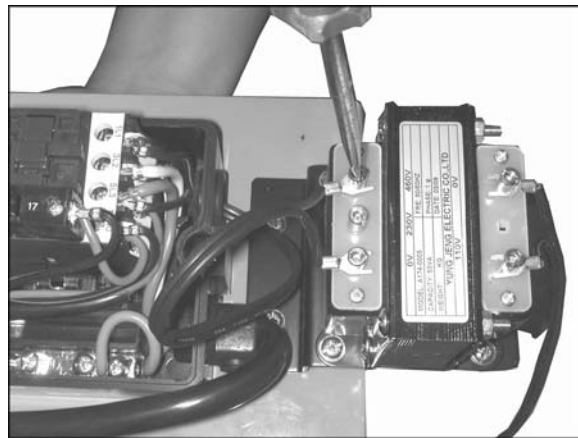

Figure 9
4. Change the lamp input power from 230V to 460V in the panel of the transformer (Figure 9) in accordance with the diagrams on pages 56 and 57.